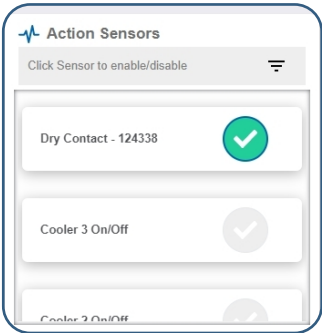

Figure 23
- By default, the sensor(s) will not be assigned to the action conditions you've just set. To assign a sensor, find the device(s) you want to designate for this action and select. Selected sensor boxes will turn green when activated. Choose the sensor box again to unassign the sensor from the action. See Figure 23.
Modbus TCP interface runs on an Ethernet connection. TCP makes sure all data is received. Modbus TCP is a non-streaming data interface standard. This means data must be requested in order for it to be received. The Modbus TCP Interface will store all data values in 16-bit registers. See Figure 23 on the next page.